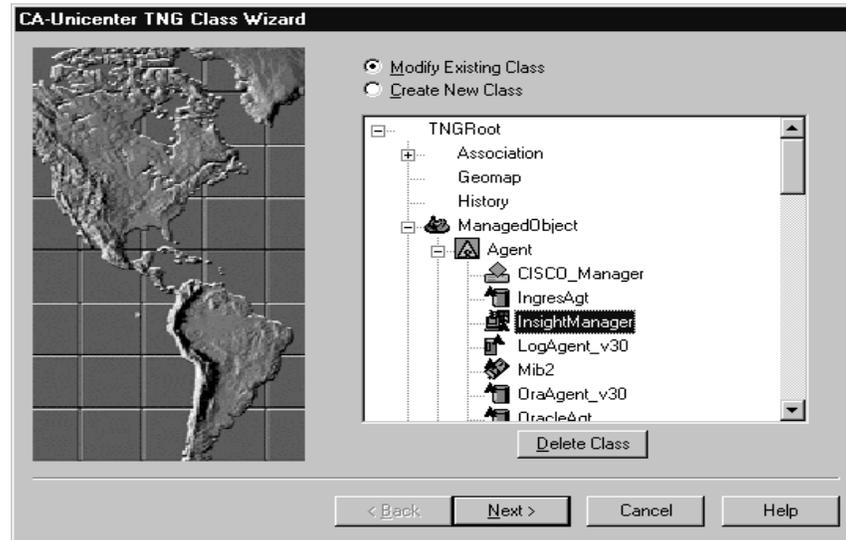

Figure 3-1. Window showing the Insight Manager Sub Class under the Agent Class
- Creation of the 'InsightManager' class inside the Unicenter TNG repository, as shown in Figure 3-1.